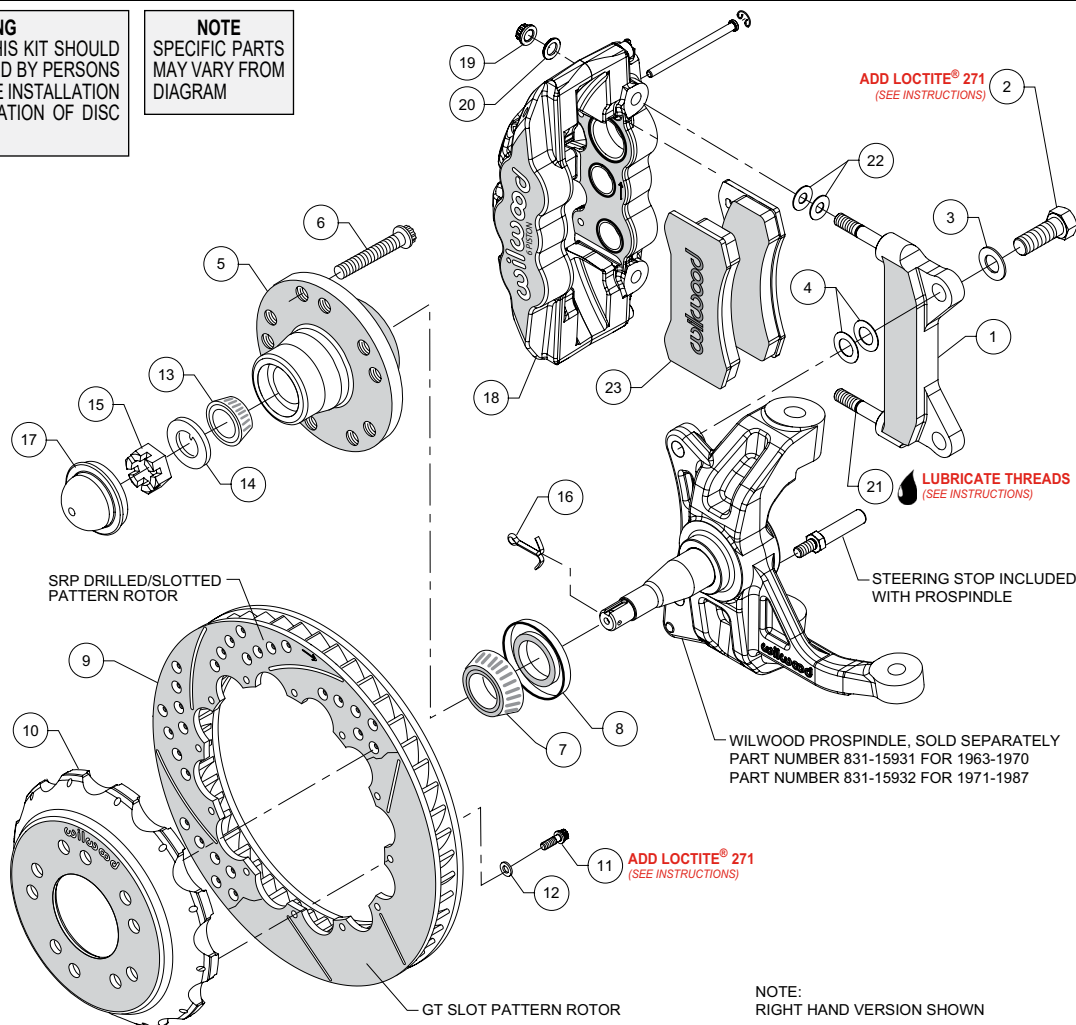
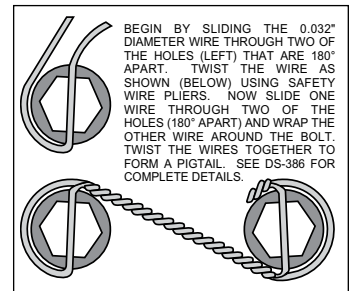

Figure 1. Typical Installation Configuration
Figure 3. Safety Wire Diagram
NOTE: Numbers in parenthesis refer to the parts list and Figure 1 on the preceding pages.
- Install the steering stop bolt (included with the ProSpindle) into the spindle as shown in Figure 1 and Photo 1. Torque to 25 ft-lbs.
- The caliper mount bracket (1) should initially be installed with clean, dry threads on the mounting bolts. Orient the bracket, as shown in Figure 1 and Photo 2, and install using bolts (2) and washers (3). Initially place two .024" thick shim (4) on each bolt between the bracket and spindle, Figure 1. Temporarily tighten the mounting bolts. **NOTE:** The bracket must fit squarely against the mount bosses on the spindle. Inspect for interference from casting irregularities, machining ridges, burrs, etc. Later, after the caliper alignment has been checked, the mount bolts will be secured using red *Loctite*® 271.
- Install wheel studs (6) into the hub (5), Photo 3. Torque to 77 ft-lb. **NOTE:** There are two five lug patterns in the hub (5 x 4.75 and 5 x 5.00). Ensure the correct hub stud pattern is being used to fit the wheel application.
- Pack the large inner bearing cone (7) with high temperature disc brake bearing grease (available from your local auto parts store) and install into the backside of the hub (5), Photo 4.
- Install the grease seal (8) by pressing into the backside of the hub (5), flush with the end of the hub, Photo 5.
- Pack the small outer bearing cone (13) with high temperature disc brake bearing grease and install into hub (5). Slide the hub assembly onto the spindle. Secure using spindle washer (14) and spindle nut (15), Photo 6. Adjust bearings per OEM specifications. Install a new cotter pin (16).
- Press the dust cap (17) into the hub (5). **NOTE:** Do not hammer center of cap. Install using outer flange only.
- Orient the rotor (9) and the hat (10) as shown in Figure 1 and Photo 7. Attach rotor to hat using bolts (11) and washers (12). Apply red *Loctite*® 271 to the bolt threads and torque to 155 **in-lb** using a criss-cross pattern. For an added measure of security, the bolts may be safety wired using standard 0.032 inch diameter stainless steel safety wire as shown in Figure 3. Refer to Wilwood's data sheet DS-386 (available at www.wilwood.com/Pdf/DataSheets/ds386.pdf) for complete safety wire installation instructions.
- Slide the hat/rotor assembly (10 and 9) onto the hub (5), Photo 8. **NOTE:** The hat must fit flush against the hub face or excessive rotor run out may result. Install three lug nuts (finger tight) to keep the hat/rotor assembly in place while continuing with the installation, Photo 8.
- NOTE:** This kit contains distinct right and left hand calipers that must be mounted in a specific direction, as described below. Lubricate the caliper mounting studs (21) with lightweight oil.
Initially place two .030" thick shims (22) on each stud between the caliper and the bracket, as shown in Figure 1 and Photo 9. Mount the caliper (18) onto the bracket (1) using lock nuts (19) and washers (20), Figure 1. Temporarily tighten the lock nuts. Ensure that the caliper is mounted so that the largest pistons are at the rotor exit end of the caliper, in relation to the direction of rotor rotation. View the rotor through the top opening of the caliper. The rotor should be centered in the caliper, Photo 10. If not, adjust by adding or subtracting shims (4) between the bracket and the spindle. Always use the same amount of shims on each of the two mounting bolts. Once the caliper alignment is correct, remove the bracket mounting bolts one at a time, apply red *Loctite*® 271 to the threads, and torque to 140 ft-lb.
- Remove the caliper (18), then remove the two pad retaining pins from the caliper by carefully popping out the pin retaining clips and sliding out the pins. Insert the brake pads (23) into the caliper from the bottom, Figure 1 and Photo 11. With the friction material facing the rotor, secure the brake pads in place with the pad retaining pins and clips, Photo 12. Reinstall the caliper onto the caliper mounting bracket and temporarily tighten the lock nuts. Check that the top of the brake pad is flush with the outside diameter of the rotor, Photo 13. If not, adjust by adding or subtracting shims (22) between the caliper and the bracket. After the caliper pad height is set, torque the caliper lock nuts (19) to 47 ft-lb.